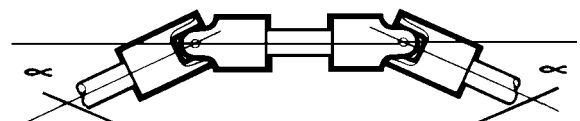

Fig 1
1. The operating angle must be the same at the input end as at the output end (Figs. 1 & 2).